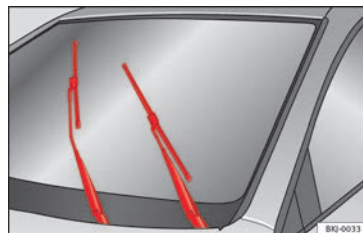

Fig. 91 Wipers in service position.
- Turn the ignition on and off and then (with-in approximately 9 seconds) push the windscreen wiper lever down (short wipe). The windscreen wipers will move to the service position » **Fig. 91.**